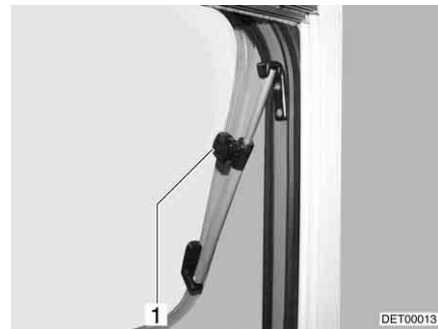

Fig. 65 Hinged window with rotary hinges, open
- Open the hinged window until the required position has been reached and use knurled knob (Fig. 65,1) to secure in position.
- Turn knurled knob (Fig. 65,1) until the latch is released.